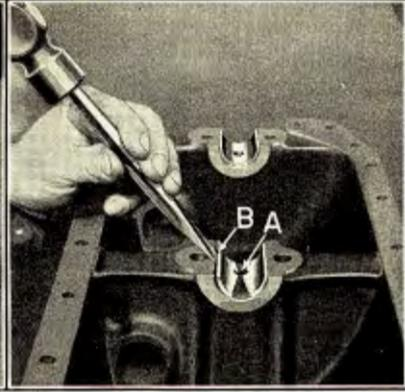
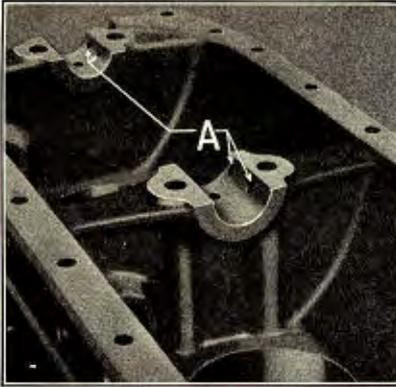

Fig. 147
Fig. 148
- 224** In rebabbitting a cylinder block and running-in the crankshaft, the first operation is to remove the old babbitt. This is done by cutting out a strip of the babbitt at the bottom of the bearing, a chisel is used for this purpose (See "A" Fig. 147), the two remaining pieces of babbitt can then be driven out with the chisel as shown at "B". If any babbitt remains in anchor holes (See "A" Fig. 148), after the old bearings have been removed, it should be drilled out.